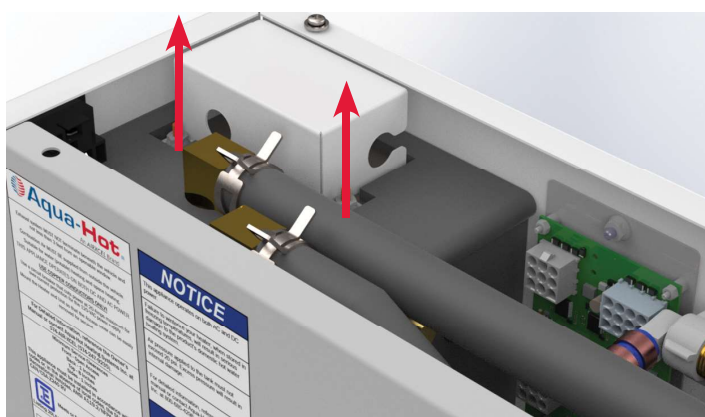
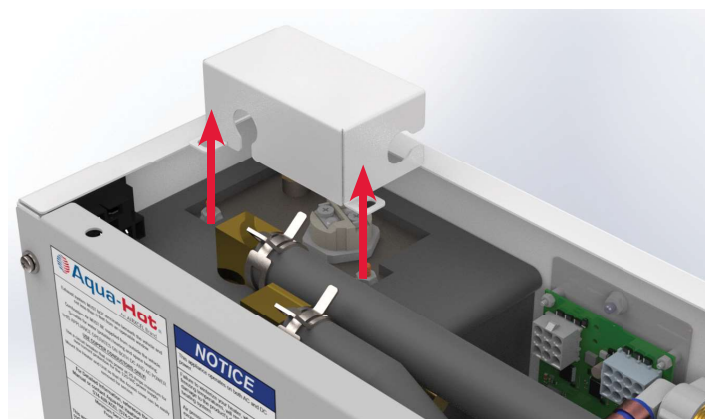

Figure 63
Figure 64
4. Remove the AC access panel on the Aqua-Hot (Figure 63 & Figure 64).